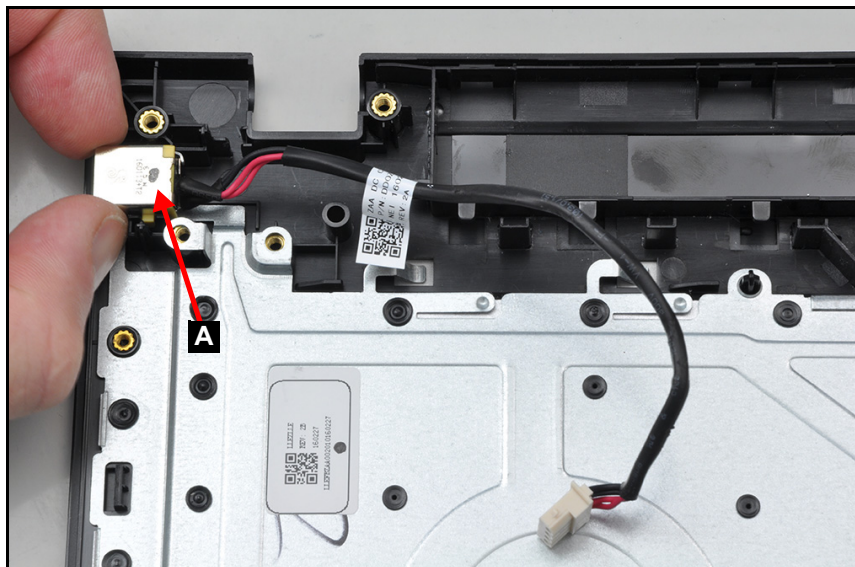

Figure 3-52. DC-in Jack Removal
1. Remove the DC-in jack (A) from the top assembly (Figure 3-52).